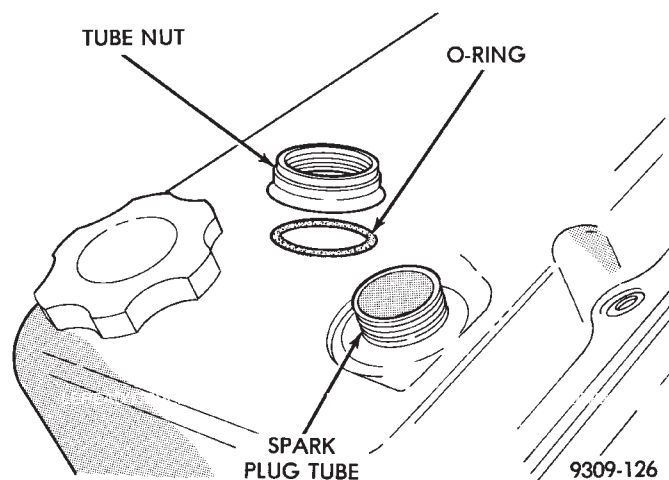

Fig. 33 Spark Plug Tube Assembly
- (3) Disconnect and relocate spark plug wires.
- (4) Loosen the A/C compressor mounting bracket and pull away from cylinder head.
- (5) Remove spark plug tube nut and O-ring (Fig. 33).